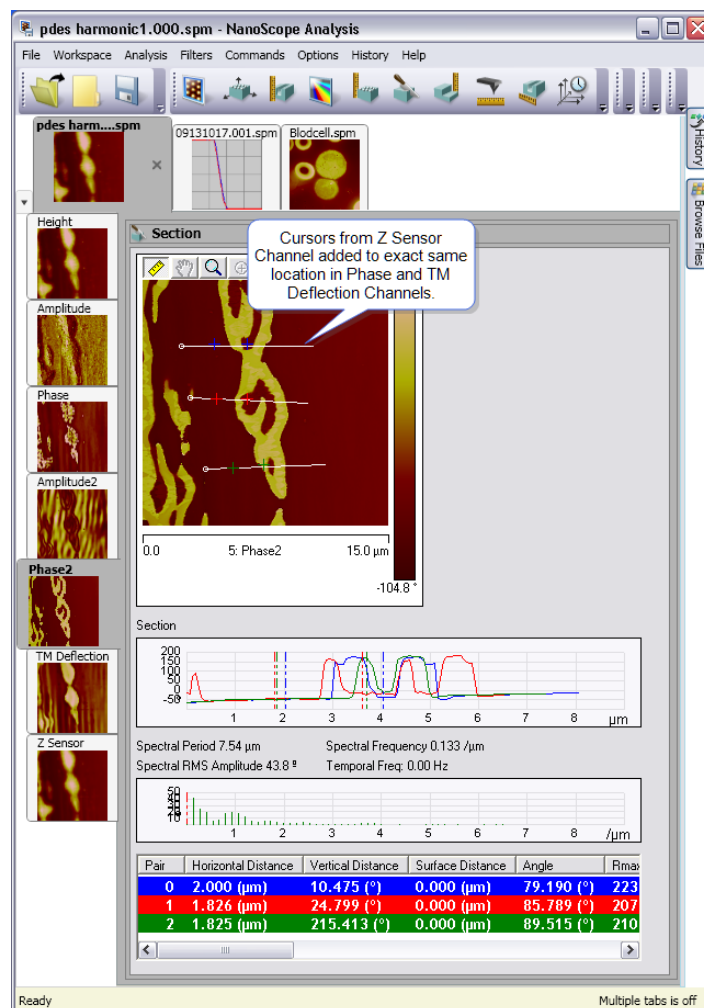

Figure 4.10f: Cursors Applied to Other Channels
5. The cursors added to the first image will now be added to the other selected images. See Figure 4.10f.